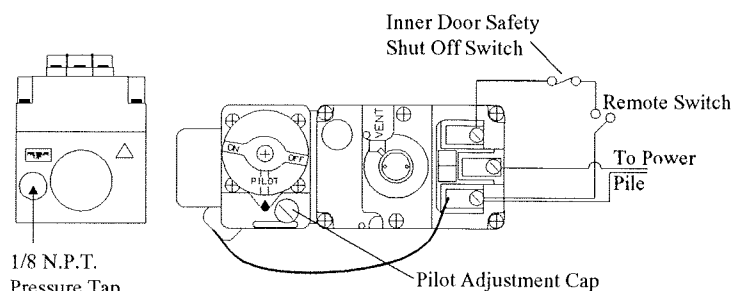

FIGURE 10. GAS CONTROL VALVE
The **Econo Plus 36DV-RV** is equipped with a remote-operated valve, located behind the removable brass grille, to the right of the gas control valve (refer to figure 10.) The valve is pre-wired and completely self contained to generate its own power **DO NOT** connect any external power to it. **Note:** The switch location must not exceed 30' from fireplace.
To light pilot it is necessary that you remove outer and inner glass door (refer to sections on glass door removal). The gas control valve is located behind the brass trim in the centre of the fireplace (see Figure 10 below). Before lighting the pilot, make sure that the gas line is connected and the gas shut-off valve is turned to the ON position. To light the pilot we recommend the use of a long match or removal of log "B":
1. Remove Pilot Adjustment Cap. (see figure 10)
The appliance should be inspected before use and at least annually by a professional service person. More frequent cleaning may be required due to excessive lint from carpeting, bedding material, etc. It is imperative that burner control compartments, burners and circulating air passageways of the appliance be kept clean. For your convenience a 1/8" pressure tap is supplied on the gas valve for a test gauge connection. See Figure 10. For **Natural gas** the gas line requires an inlet pressure of 7" W.C. and a manifold pressure of 3.5" W.C. For **Propane gas** the gas line requires an inlet pressure of 11" W.C. and a manifold pressure of 10.5" W.C. Always keep the fireplace area clear and free of combustible materials, as well as gasoline and other flammable vapours and liquids.